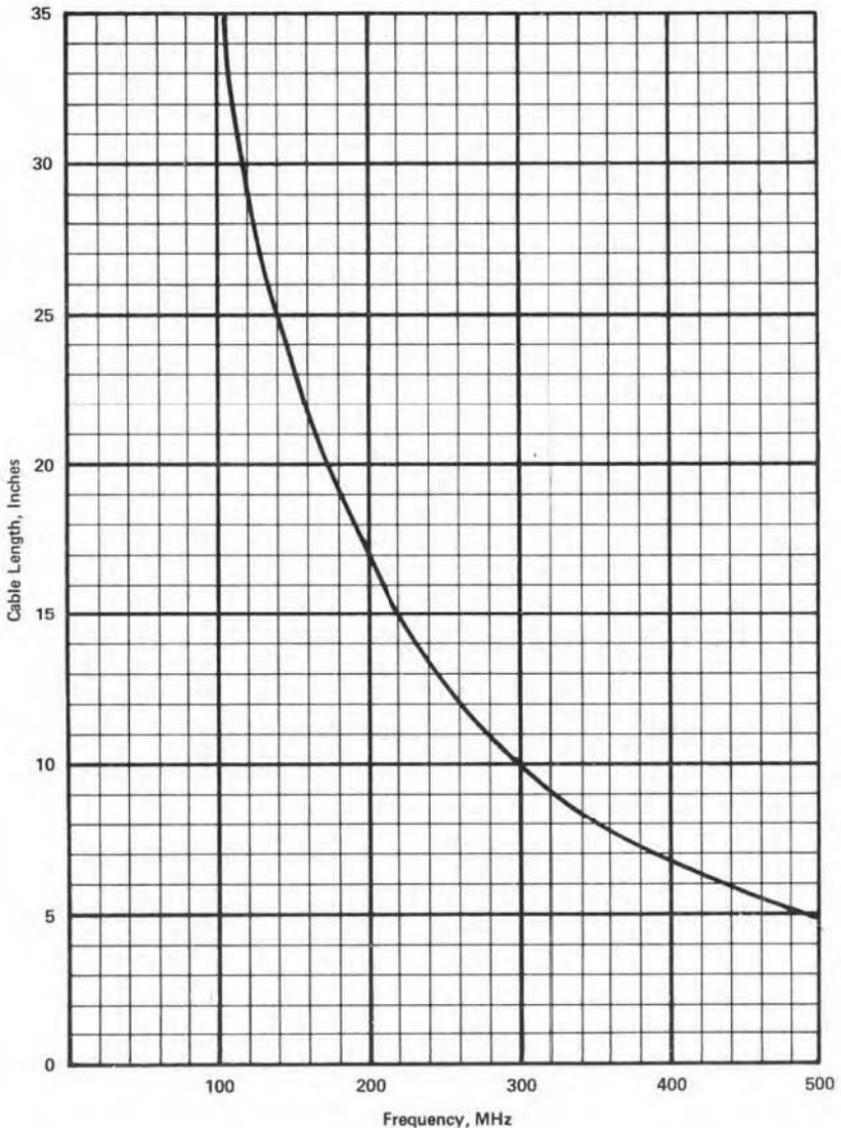

Figure 7-3 – One-Half Wavelength Coaxial Line
7.04 Figure 7-3 will furnish the user with a chart for fabricating $1/2$ wavelength coaxial line used in conjunction with the Model 44 Watt Meter to minimize measurement errors in rf systems with high VSWR.